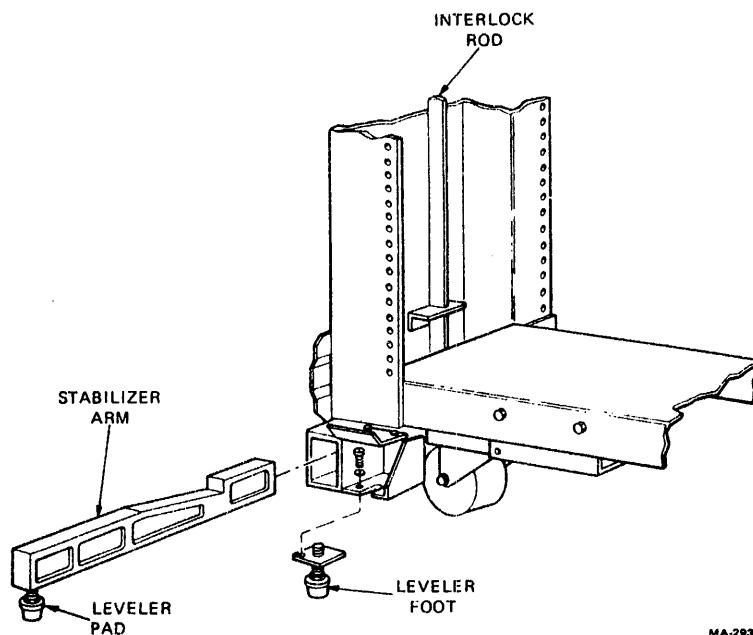

Figure 2-7 H9602 Stabilizer Leg and Leveler Feet Locations
3. Raise the interlock rods and remove the stabilizers from the stabilizer sleeve assemblies (Figure 2-7).
5. Raise the interlock rods and reinsert the stabilizers into the stabilizer sleeve assemblies (Figure 2-7).
1. Install the leveler feet in four places on each cabinet frame (Figure 2-7).